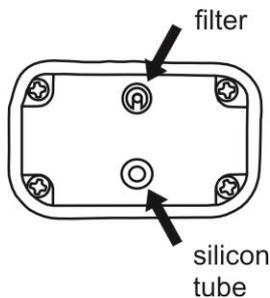

Fig. 14
- Prepare the pump with a new air filter. Put the filter on the pneumatic connector which has the smaller inside diameter as shown in Fig. 14.